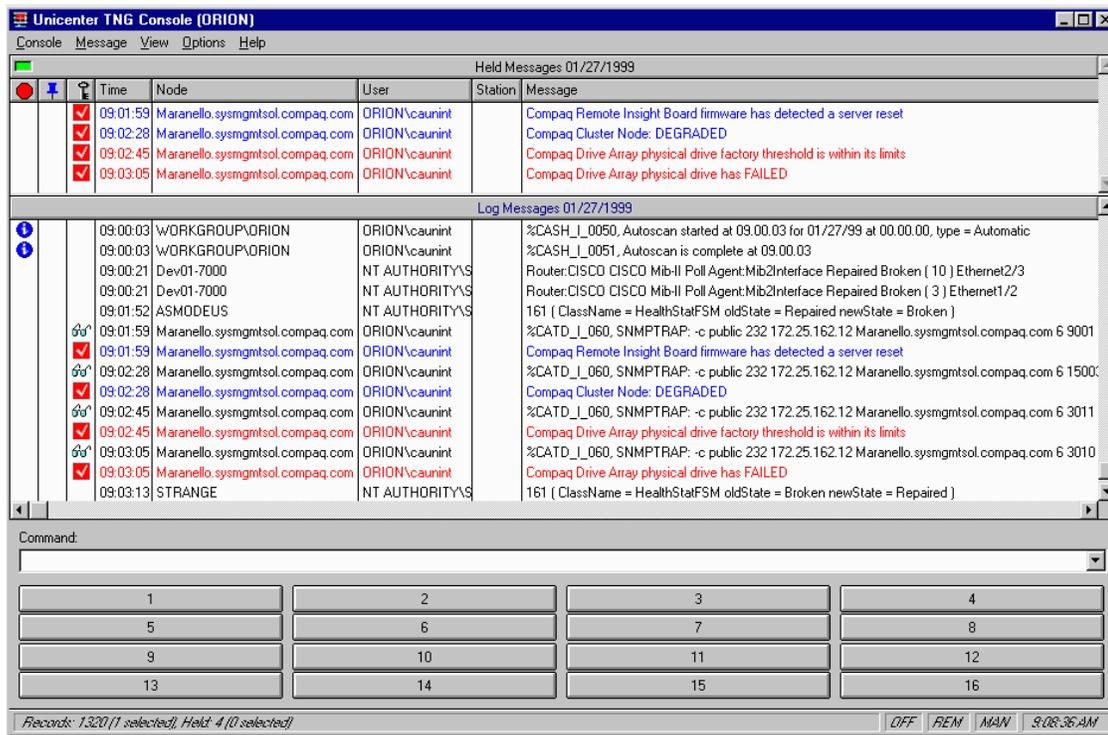

Figure 3-4. Unicenter TNG Enterprise Management Console Log
- Event notification inside Unicenter TNG's Enterprise Management Console, as shown in Figure 3-4.